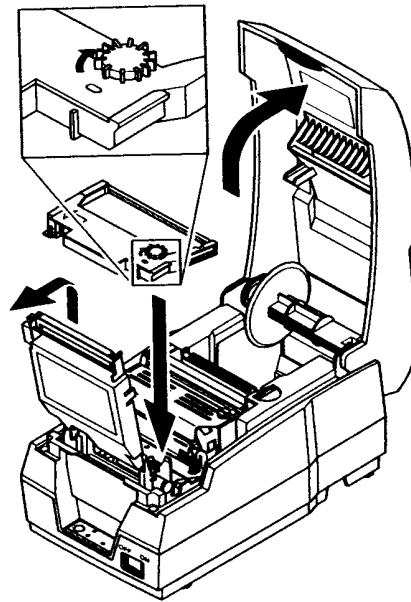

Figure 3-4. Ribbon Cassette Installation
2. Insert the ribbon cassette as shown in Figure 3-4. Pay particular attention to the placement of the ribbon behind the Print Head.